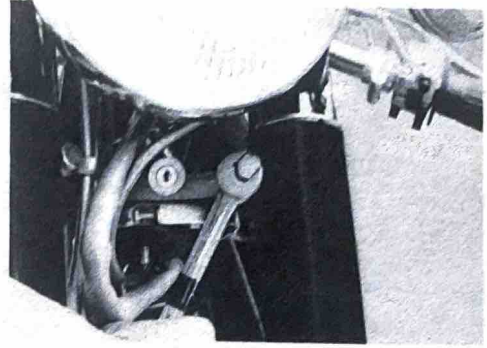

Fig. 5-6-3
- 3) Loosen the underbracket bolt. (Fig. 5-6-3)